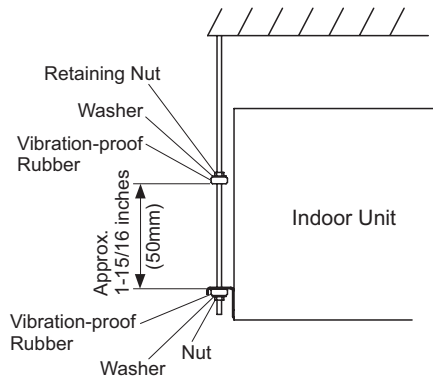

Figure 5.4 Suspension Bolts and Nuts
- (1) Prepare the suspension bolts, washers, nuts and vibration-proof rubbers, as shown in Figure 5.4.